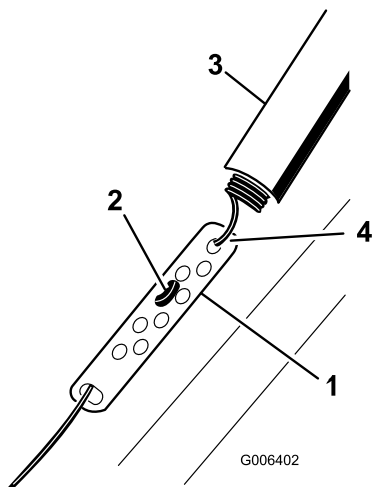

Figure 11
1. Slide up the spring cover and unhook the spring from the adjuster link (Figure 11).
2. Move the Z-fitting to a higher or lower hole on the adjuster link as needed to obtain the 1/16-inch to 1/8-inch (2 mm to 3 mm) gap between the control bar and the handle (Figure 11).